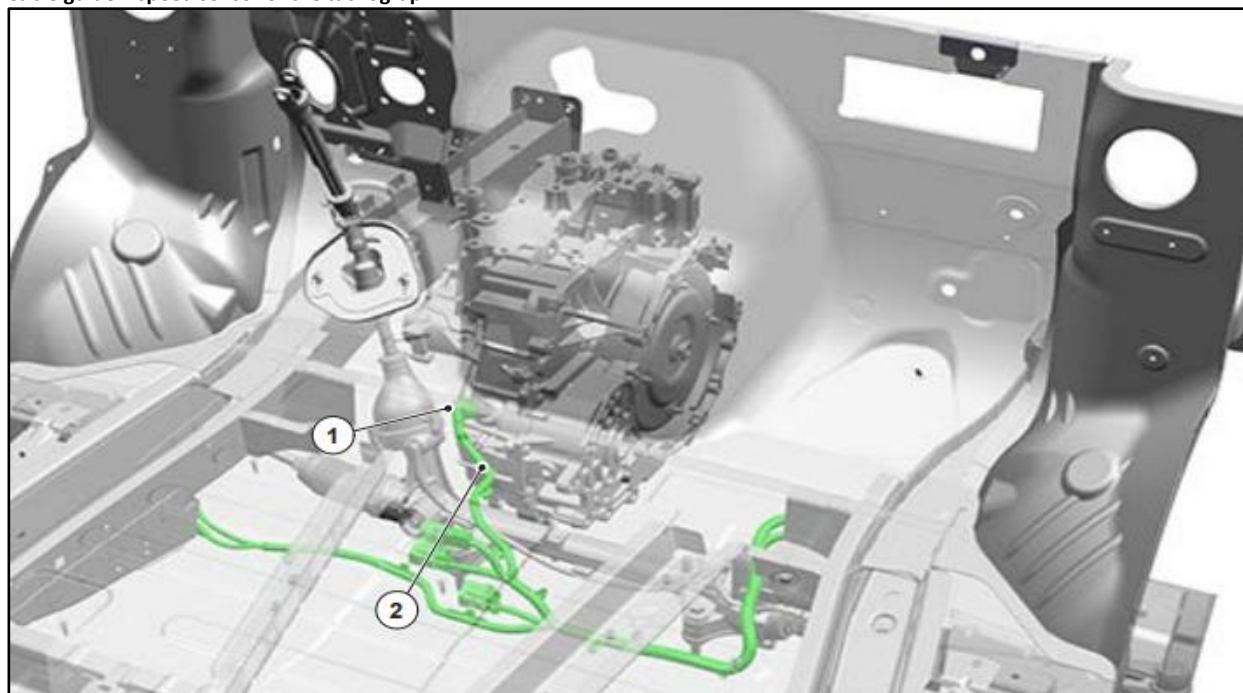

Fig. 1: Cable guide – speed sensor of the tachograph
- Wiring harness – driving speed sensor, see Figure 1 in Chapter 4.11.2 for cable guide